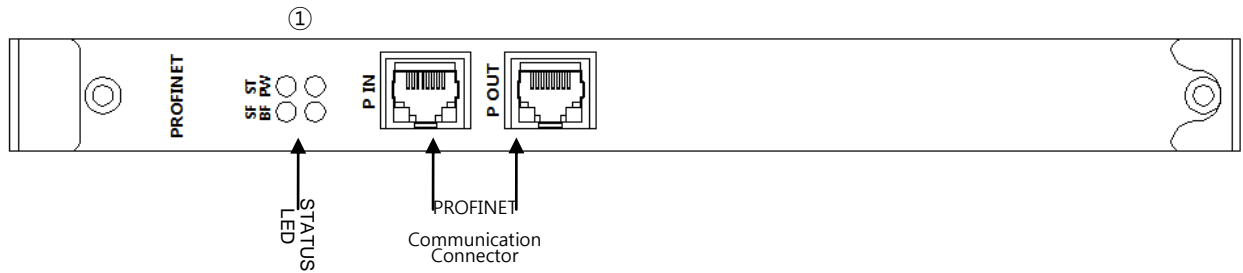

Fig. 3.1 Outside View from Front of CC- PROFINET Option Card
Fig. 3.1 shows the PROFINET Option Board outside view from front.
PROFINET Option Board comes with a total of 4 LEDs, making it possible to check briefly out PROFINET Adapter status from the outside. The external look is shown in Fig. 3.1 ①, with functions listed below.